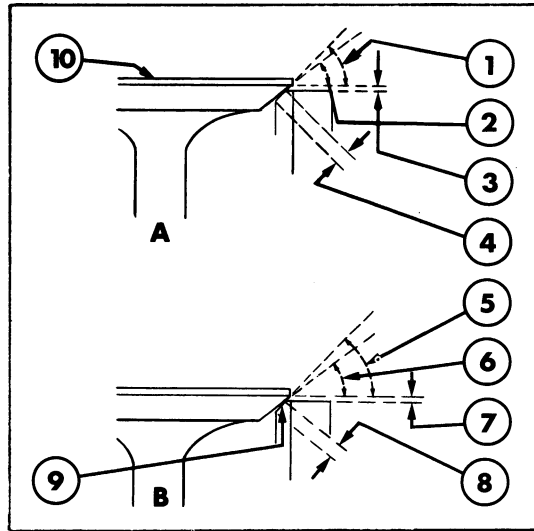
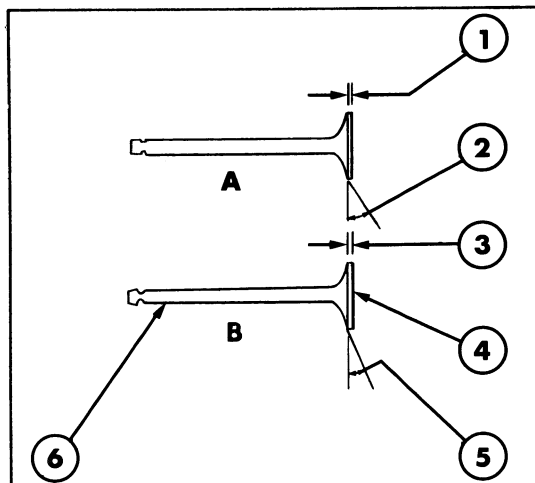

Figure 17
Figure 20
6. Measure the width of the valve seats, Figure 15, and reface the seats if they do not meet the specifications shown in Figure 17.
NOTE: Reface the valve seat and face at the same time so the finished measurements correspond to Figure 17.
The critical inspection points of the valves are shown in Figure 20. Inspect the valve face and the edge of the valve head for pits, grooves, scores or other defects. Inspect the stem for a bent condition and the end of the stem for grooves or scores. Check the valve head for cracks, erosion, warpage or burn. Minor defects such as small pits or grooves, can be removed.
The valve refacing operation should be closely co-ordinated with the valve seat refacing operating so the finished angle of the valve is $\frac{1}{2}^\circ$ less than the valve seat to provide an interference angle for better seating, Figure 17. Adjust the refacing tool to obtain a face angle of $44\frac{1}{2}^\circ$ or $29\frac{1}{2}^\circ$, Figure 20.